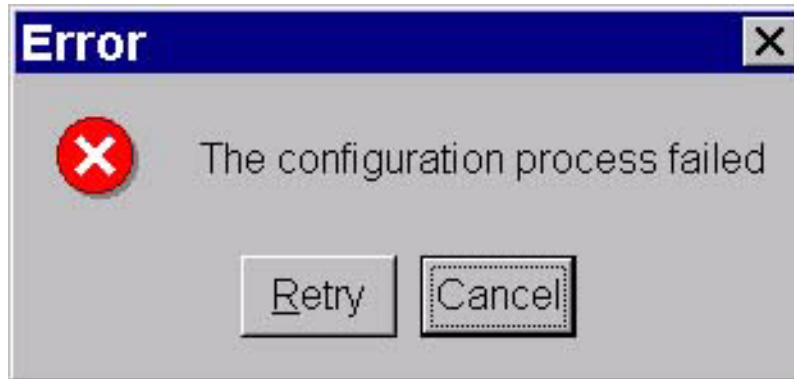

Figure 5
- If an error message appears regarding the configuration process failing, select "Cancel" on the Error message window. See Figure 5 below.